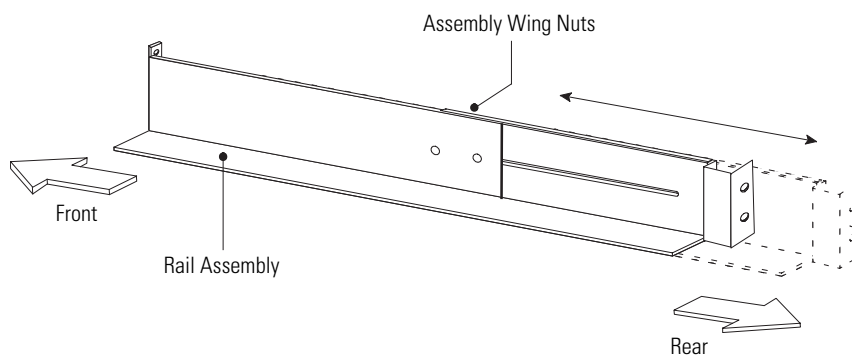

Figure 3. Adjusting the Rail Depth
1. Loosen the assembly wing nuts on both rail assemblies and adjust the rail size for the depth of your rack (see Figure 3).